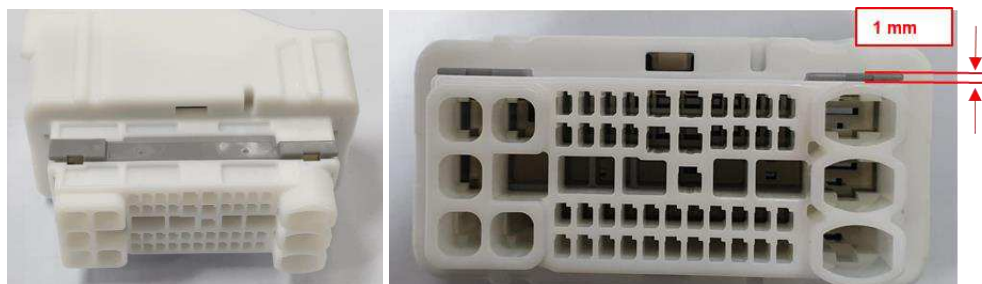

Fig. 8
- (1) Check retainer is in pre-lock condition as shown in Fig.8. The contact cannot be inserted in case of the final lock condition so do it again after rework.
In case of Male Contact insertion or extraction, Retainer is extracted to Pre-Lock condition (see Fig.8). Refer to Retainer release operation in Fig.11 .